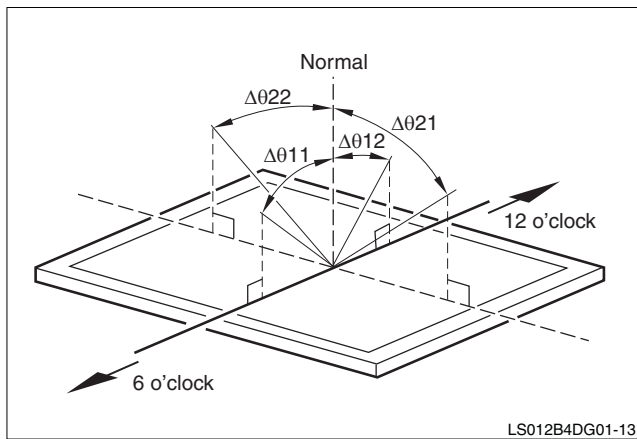

Figure 3. Viewing Angle
1. Viewing Angle is described as clock positions: θ12 = 12 o'clock, θ11 = 6 o'clock, θ21 = 3 o'clock, θ22 = 9 o'clock. See Figure 3.